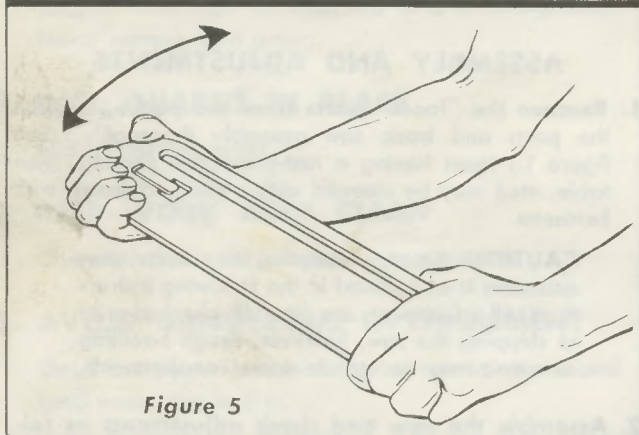

Figure 5
- (4) If the table insert cannot be adjusted (with set screws) at all four corners, it may have a slight twist which can be eliminated by removing it and giving it a corrective twist with two hands. (See figure 5.) Exercise care to avoid an over correction and readjust set screws after each trial. Several trials may be required to achieve an accurate adjustment.